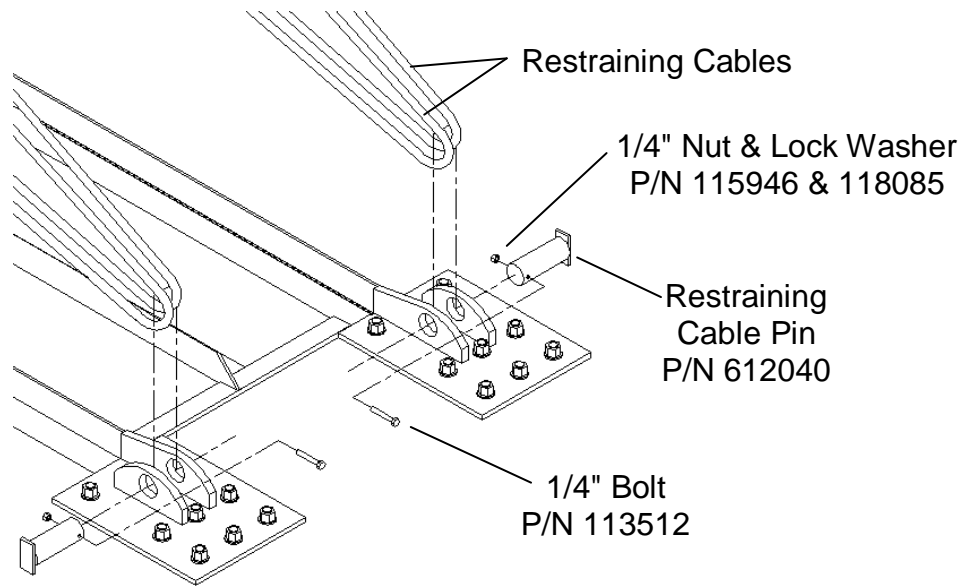
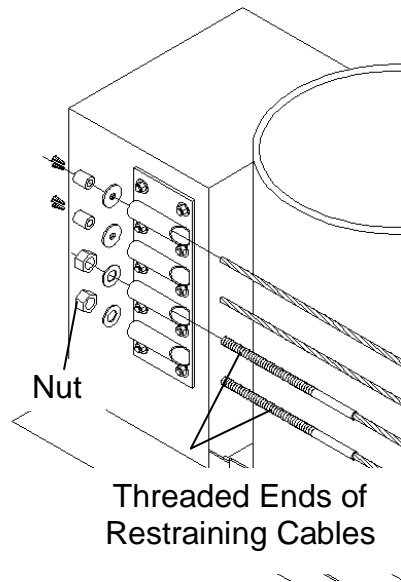

Figure 21
Figure 22
- B. Route the Restraining Cable through the Cable Guides on the sides of the Cylinders, around the Restraining Cable Pin as shown in Figure 21, back through the Top Cable Guides on the Cylinders and through the Top Cable Guide of the Side Plate. See Figure 22.
3. Pull on the cut end of the cable removing all possible slack. Slide the 7/8" x 3" flat washer and the ferrule (in that order) over the end of the non-threaded end of the Restraining Cable. Mark the cable 2" back from the ferrule. Leaving the ferrule and washer in place, cut the cable at the mark with a grinder or hack saw. Do not use a torch to cut the cable. Un-braid end of cable and insert middle strand between the two halves of the wedge. Carefully wrap the remaining six strands into the two halves of the wedge. Carefully wrap the remaining six strands into the slots around the wedge then push into ferrule to tighten (see Figure 22 and Detail A). Use a drift pin and sledge hammer to seat the ferrule into the cable receptacles.
Repeat these steps for remaining three Restraining Cables ensuring that the threaded ends of the Restraining Cables are installed through the lower two guides as shown in Figure 22.
Use the nuts on the threaded end of the cables to tension the cables. See Figure 22. When properly tensioned, the cables should not deflect more than 75 mm [3"] with 45 kg [100 lb.] downward pressure.